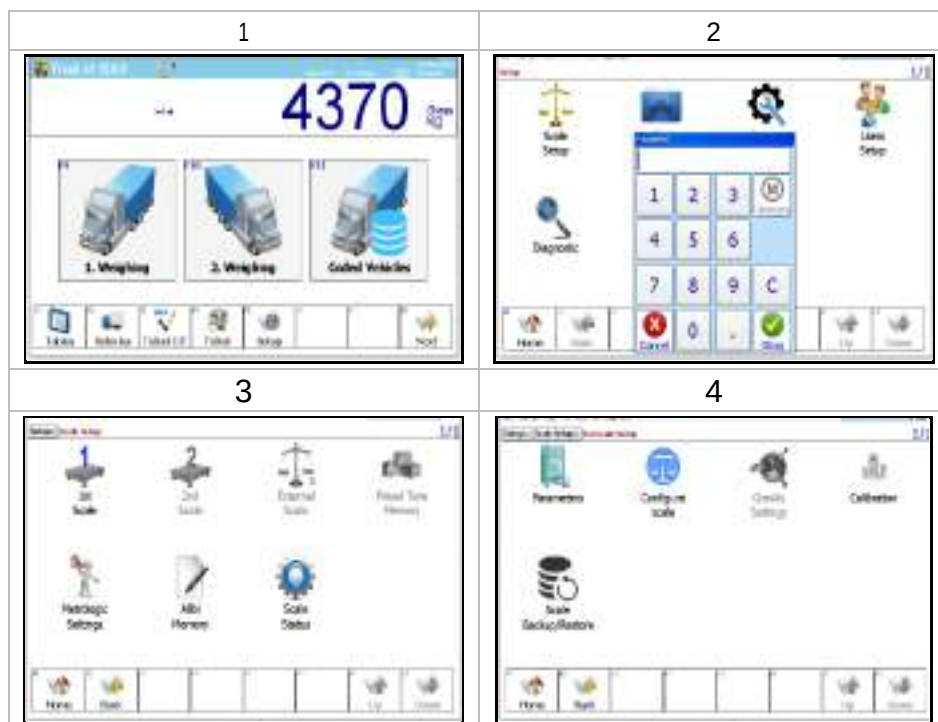

Figure 5-1
2. Click the Setup key on the Home Screen (Screen 1 in Figure 5-1 below).
When the parameters  icon in screen 4 of Figure 5-1 is clicked, screen 1 below opens. Click the Down key to access the second page of this screen, then screen 2 opens.